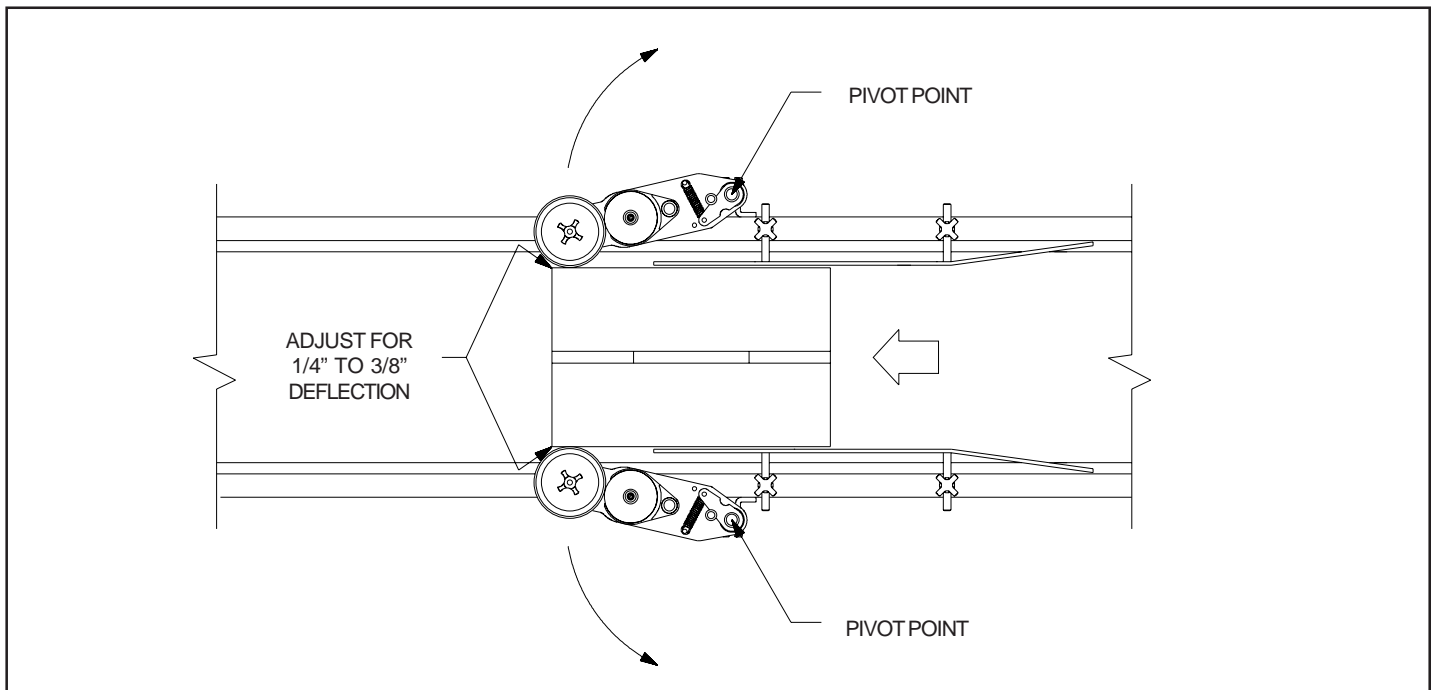

FIGURE 34
- 2 - Check the print drum contact with the cartons while the conveyor is under power and adjust the print drum position to obtain approximately 1/4" - 3/8" deflection as shown in Figure 34